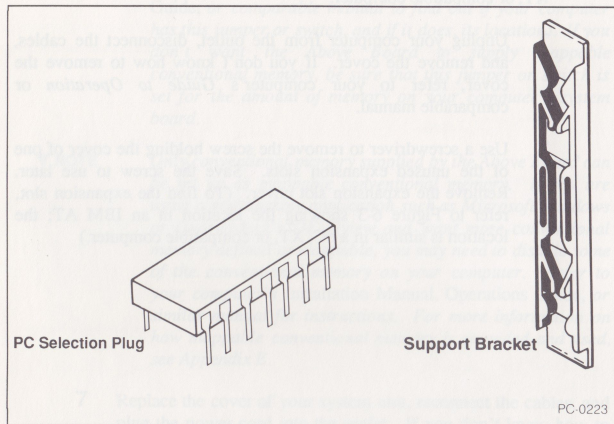

Figure 6-8 The PC selection plug and the support bracket
- 3 Find the plastic packet containing the PC selection plug and the support bracket supplied with your Above Board. Figure 6-8 shows the plug and the bracket.
- 4 Find the plastic packet containing the PC selection plug and the support bracket supplied with your Above Board. Figure 6-8 in the previous section shows the plug and the bracket.